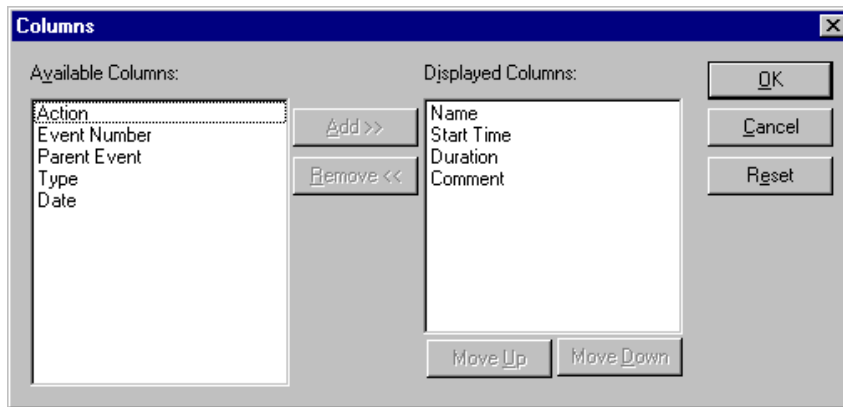

Figure 146. Columns dialog box
1. Choose **View | Columns** and Columns dialog box (Figure 146).